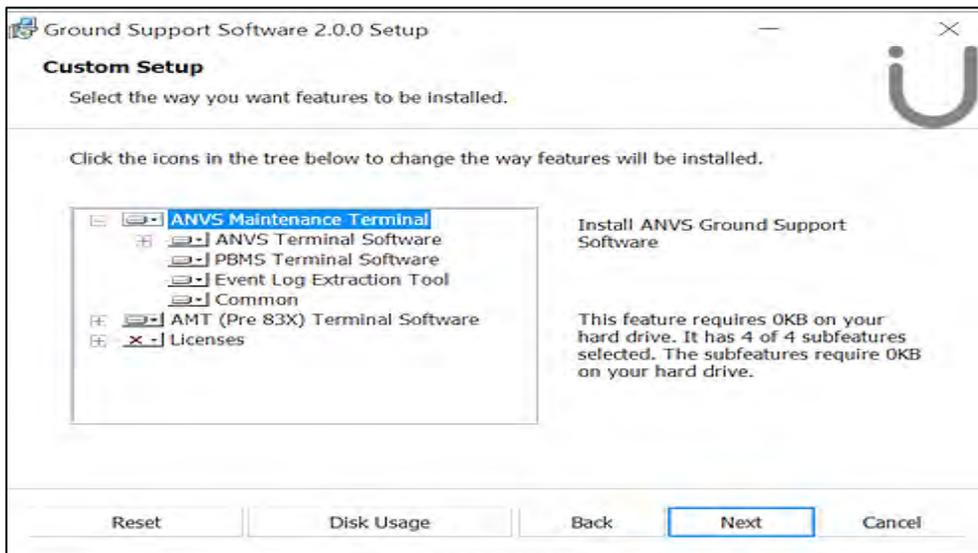

Figure 3-3 Custom Setup
- (a) Select next on the Custom Setup Screen (Ref Fig 3-3).
- (1) Select Read PBMS Data from File in the Main Menu and Press <Enter> (Ref Fig 3-3).